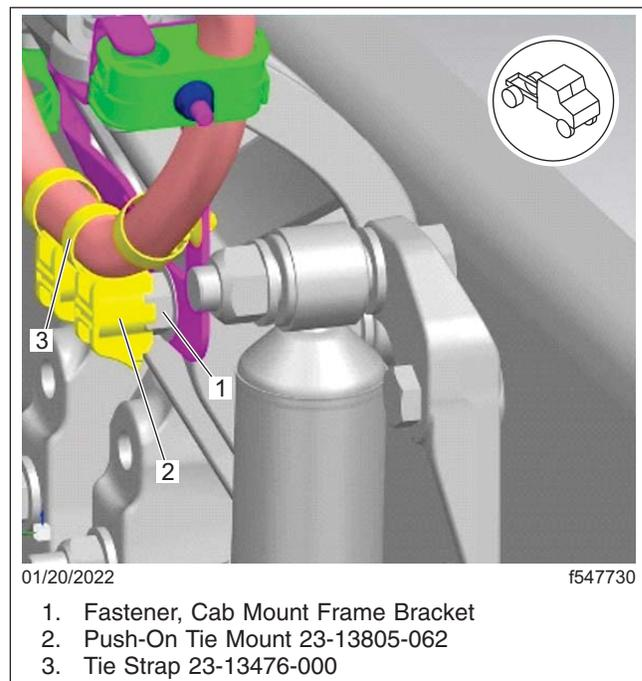

Fig. 19, Copper Cable Secured
13.2 Secure the new copper positive 4/0 cable to the push-on tie mount using tie straps (23-13476-000). See Fig. 19.